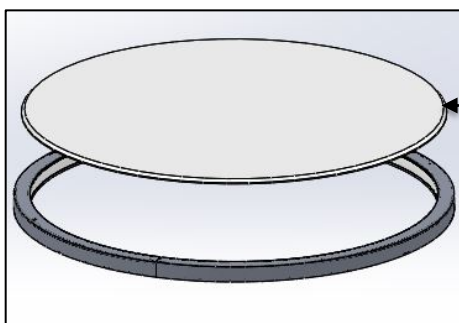

FIG. 19 - RV1 (INNER ILLUMINATION) (WITH ACOUSTIC PANEL SHOWN)
9. If there is option for Acoustic Panel, place the Acoustic part above the fixture body such that it is eventually balanced and assembly concentrically to the axis of fixture body as shown in FIG. 19 and 20 below for both RV1 and RV2 Series.